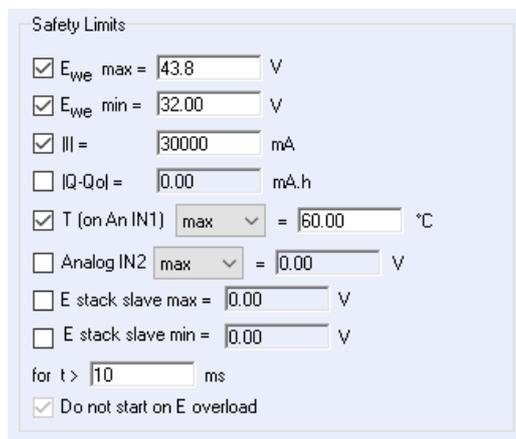

Figure 9: Safety limits in Advanced Settings.
- Safety limit in EC-Lab® has to be set appropriately (Fig. 9). It is highly recommended to set the voltage range, maximum current and maximum temperature.